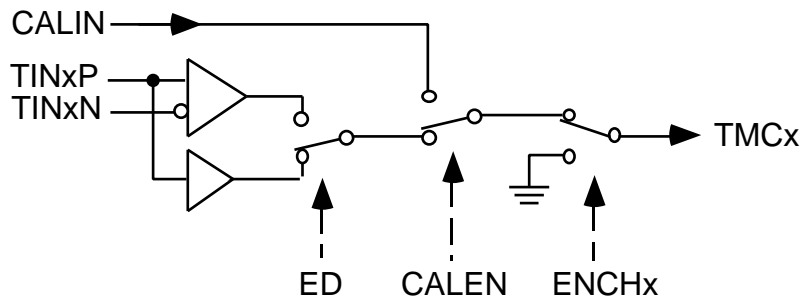

Fig. 1 Data input chain. ENCHx is a bit in CSR7.
- ED [I] : When this signal is High level, TINxP/TINxN (x=0..3) pins are connected to a differential input receiver. When this signal is Low level, the TINxP pin is connected to a single ended input buffer and the TINxN pin is disconnected from internal circuit. (Fig. 1)
- TIN0P ~ TIN3P,TIN0N~3N [DI/I] : Inputs for time measuring signals. In differential input mode, TINxP act as a non-inverting input and TINxN act as a inverting input. In single end mode, TINxP is used for the input of clock. (Fig. 1)
- CALEN [I] : Calibration input enable signal. (Fig. 1)
- CALIN [I] : CALibration signal input. When CALEN is high level, this signal is applied to all 4 channels. (Fig. 1)